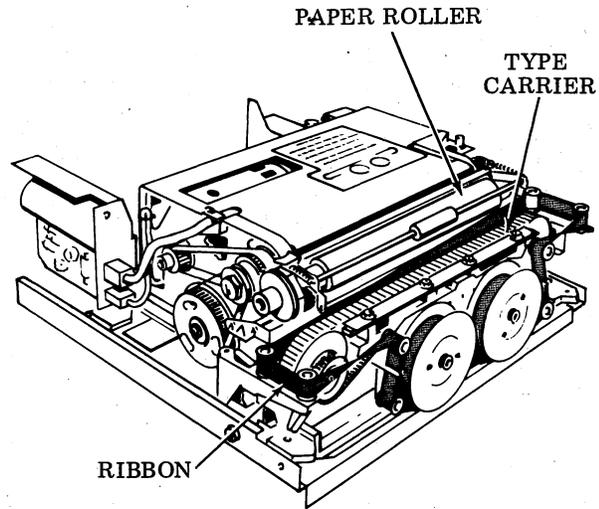
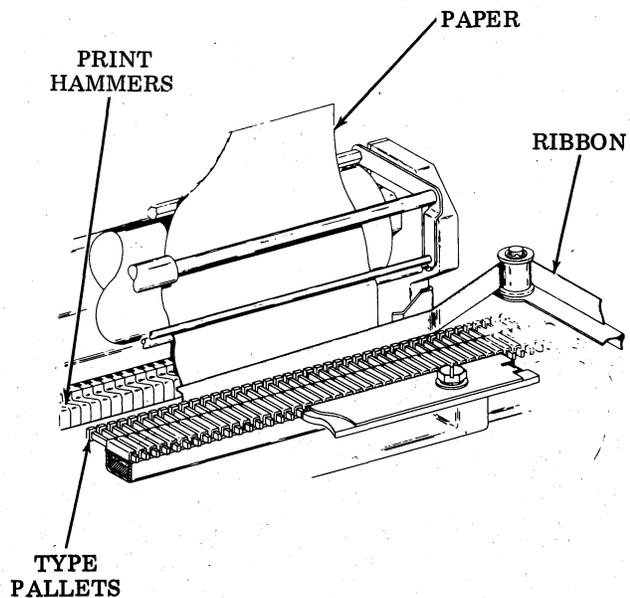

Figure 10 - Printer
Figure 11 - Printing Mechanism
2.24 The printer mechanism is shown in Figure 10. Printing is accomplished by a horizontal row of 80 print hammers, one for each character position across the page. The type pallets are mounted in a belt-like carrier which moves at a constant speed across the face of the page. As indicated in Figure 11, the print hammers face the type pallets, and the paper and ribbon are between them. The hammers impact the paper and ribbon against the character pallets when the pallets are in the appropriate columns of the line.